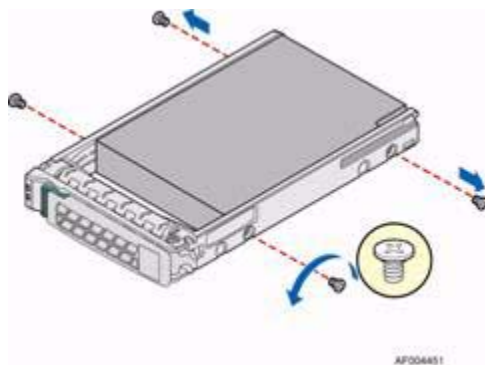

Figure 4-7 Installing 2.5" HDD into Carrier
1. Remove the four screws securing the plastic drive blank from the HDD carrier and install the HDD with the screws shown in Figure 4-7.